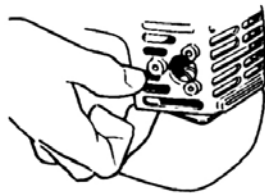

Figure 5
2. Lift the corner of the cylinder cover just below the muffler as shown in Figure 5, and lift off the cylinder cover.